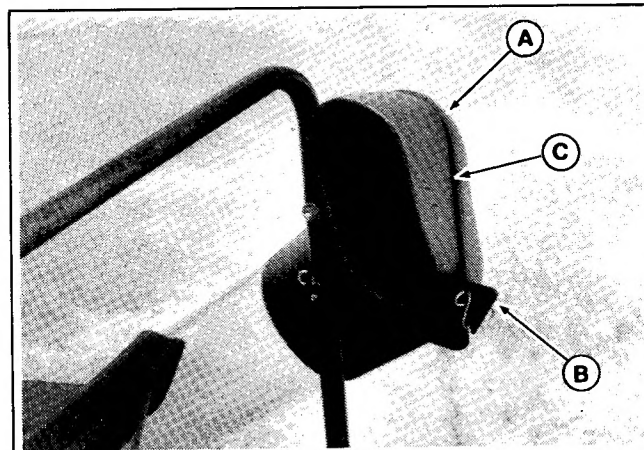

Figure 9. (Shown with cover for clarity.)
5. Pick up the cover and place down onto the frame inserting the elbow (A, figure 9) into the bracket (B) (shown without cover for clarity). Pull the rubber strap (C) over the elbow and hook into bracket as shown.